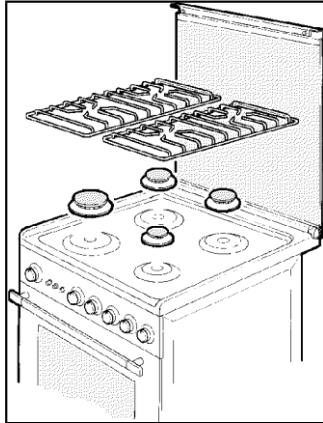

Fig. 7A
- 2) Remove the grids from the work surface (Fig. 7A-7B).
- 3) Remove the burners (Fig. 7A-7B).